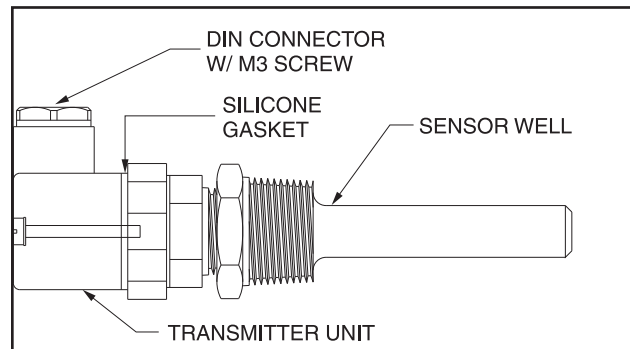

Figure 34 - TEMPERATURE TRANSMITTER
2. Remove DIN connector plug from transmitter. See Figure 34.